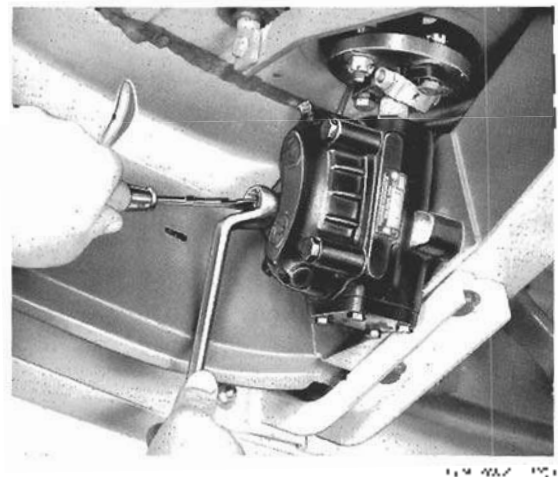

Fig. 9-3. Worm and peg steering being adjusted.
2. Loosen the locknut for the adjusting screw. Have someone gradually turn the adjusting screw (Fig. 9-3) until you feel the correct resistance as the steering passes through the centerpoint.